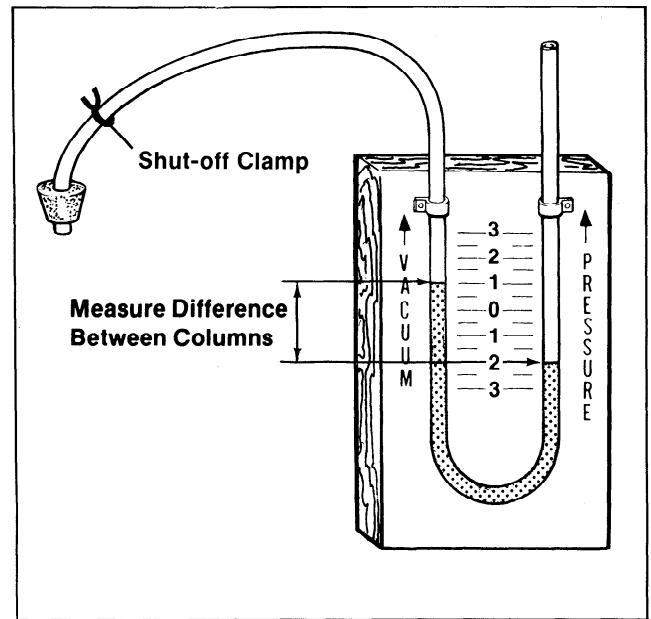

Figure 1-5. "U" Tube Manometer
Some procedures detailed in this manual recommend use of tools which can be made by the service man. (Figures 1-5 and 1-6)
1. Cut a piece of 1/2" plywood so it measures 10" x 30" as in Figure 1-5.
2. Fasten a six foot length of 1/2" O.D. clear plastic tubing to the plywood board as shown in Figure 1-5. Make a gradual rather than a sharp bend in the tube.
6. Pour colored water into the tube until the level reaches the halfway (0) mark of the scale marked on the plywood board.